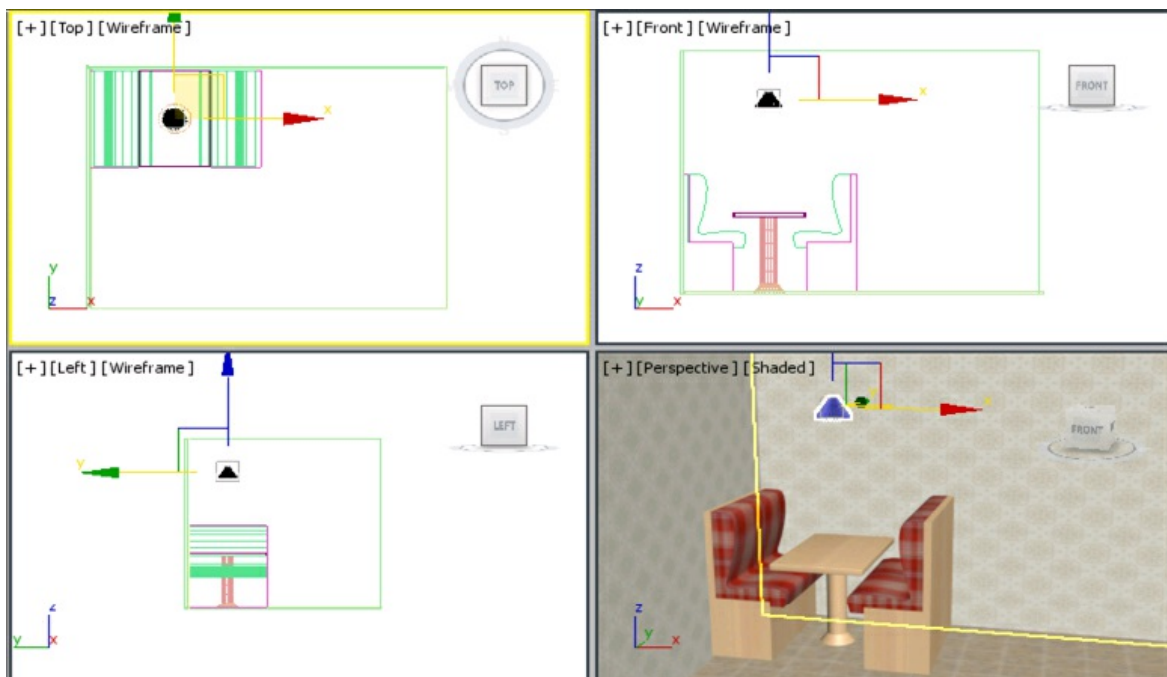

Figure P1-13 Shade moved into position
17. Choose the **Zoom Extents All** tool. In the Front viewport, move *Shade* so that it is centered above the table. In the Top viewport, move and rotate *Shade* to the center of the table, as shown in Figure P1-13.